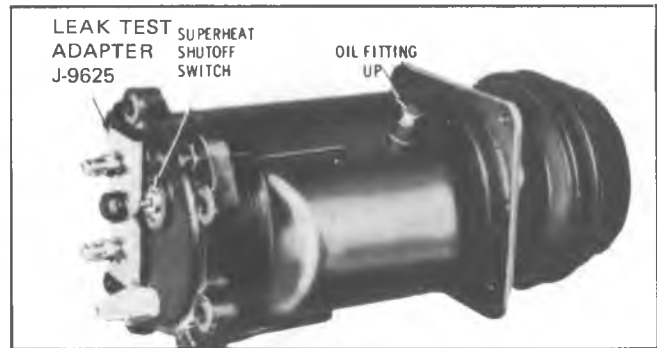

Fig. 22--Leak Testing A-6 Compressor
6. Install Compressor Leak Test Fixture J-9625 on rear head of compressor and connect gage charging lines as shown for bench test in Fig. 22 or pressurize SUCTION SIDE of compressor on car with Refrigerant-12 vapor to equalize pressure to the drum pressure. Temporarily install the shaft nut and, with compressor in horizontal